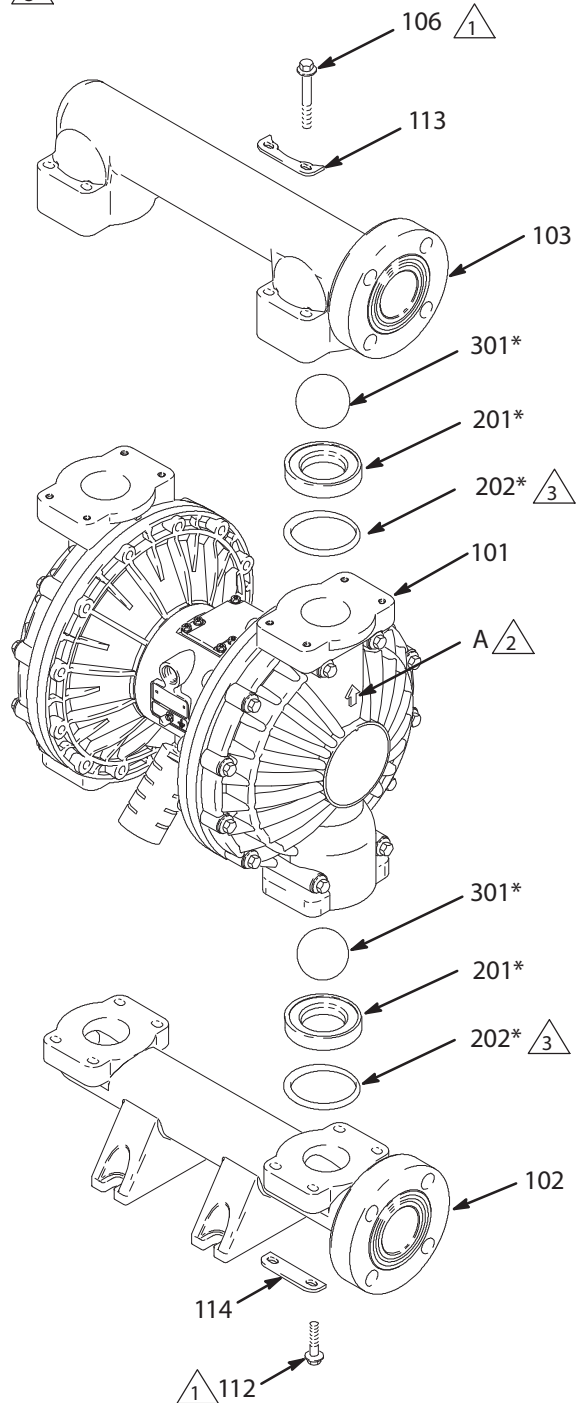

Fig. 11
3. Using a 10 mm socket wrench, remove the eight bolts (106), and four washers (113), holding the outlet manifold (103) to the fluid covers (101). See Fig. 11.
4. Remove the seats (201), balls (301), and o-rings (202) from the manifold.
2. Reassemble in the reverse order, following all notes in Fig. 11. Be sure the ball checks are assembled **exactly** as shown. The arrows (A) on the fluid covers (101) **must** point toward the outlet manifold (103).
-  Arrow (A) must point toward outlet manifold (103).